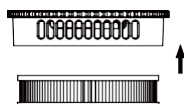

Fig.13
6. Assemble the HEPA (Fig.13). Rotate the HEPA filter cover to lock the cyclone. (Fig.15)